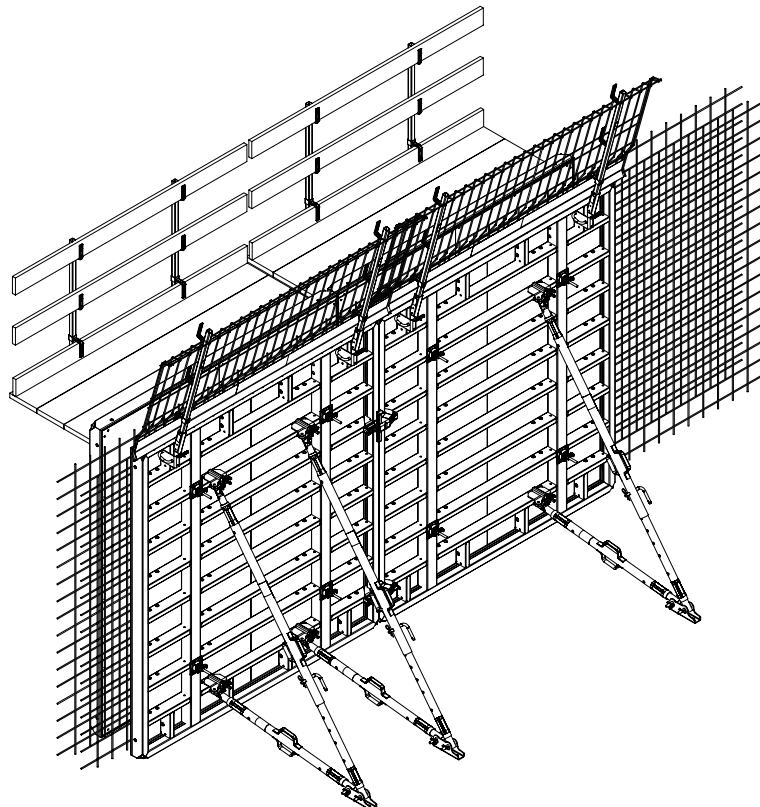

Fig. A2.08
5. Mount the working and concreting platform. (Fig. A2.08)